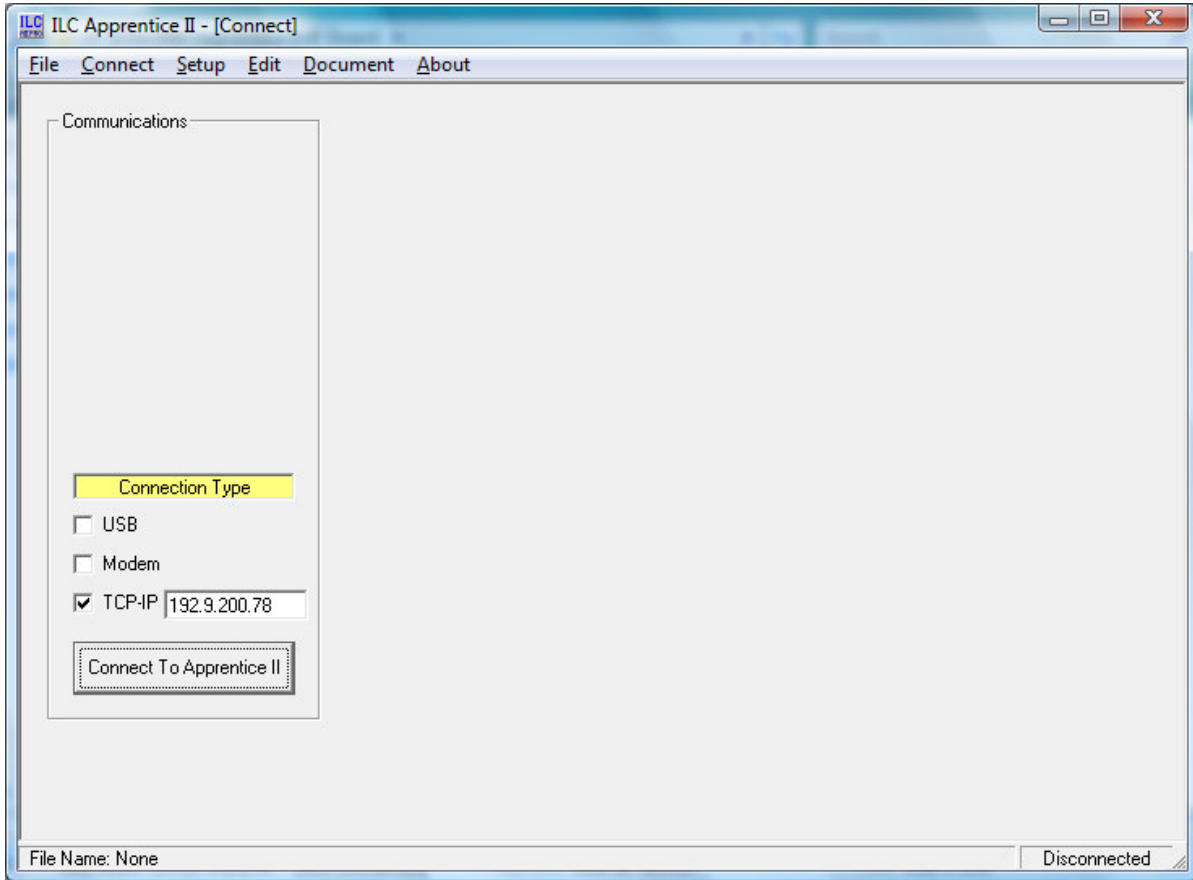

Figure 4
7. To Connect to a Apprentice II panel using the Apprentice II Pro software open the program, select “TCP/IP”, enter the IP address, select the “Node Number”, and press the “Connect to Apprentice II” button as shown in Figure 4.